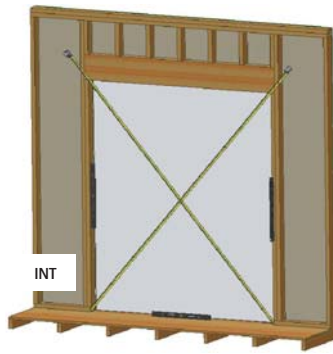

FIG. 1
- Verify the rough opening is flat, plumb, level and square. (Fig. 1)
- Take diagonal measurements to check for square. (Fig. 1)
- Make sure the bottom sill area of the rough opening is flat and level. Correct rough opening if sloped towards the interior, out of level or humped. (Fig. 1)